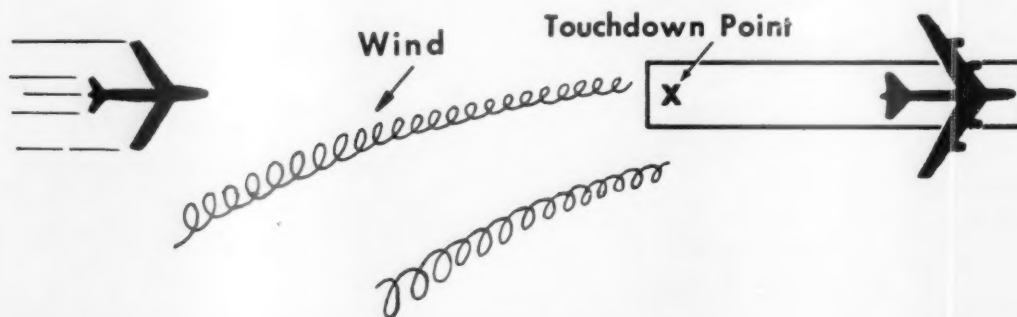

Fig. 8
- Landing behind a large aircraft on the same runway. Stay at or above the large aircraft's final approach flightpath, note his touchdown point, and land beyond it (see Fig. 8).